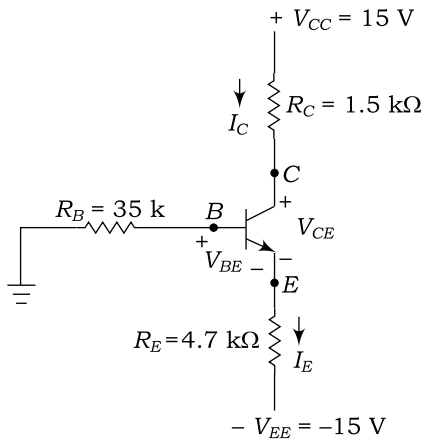

Fig. 2.125
52. Figure 2.125 shows the emitter-bias circuit. Determine the emitter current, collector current, collector to emitter voltage and stability factor. Assume $V_{BE} = 0.75$ V and $\beta = 70$.